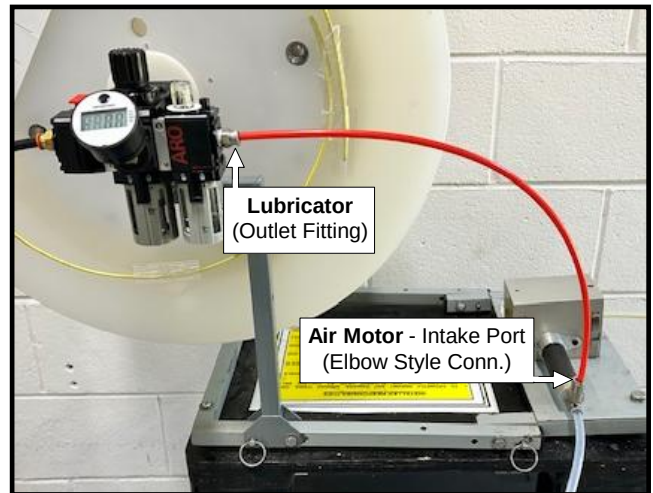

Figure 14
8.7 The final tube segment to the Air Motor utilizes a "Kit Provided" 8mm Red Tube that goes between the Outlet Port of the Filter Regulator Assembly-"Lubricator" and the 8mm air intake fitting on the Motor. See Fig. 14